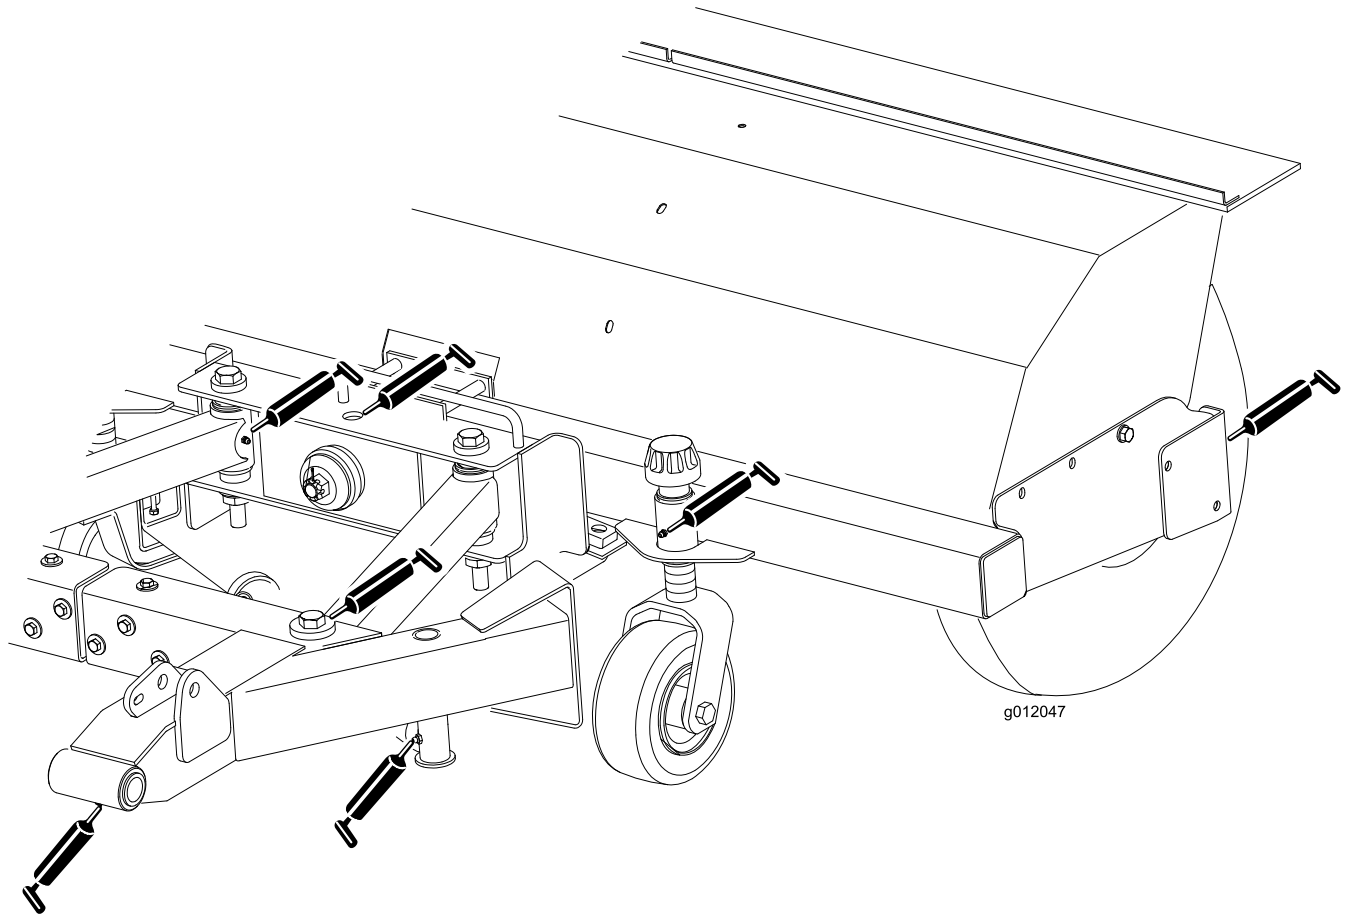

Figure 22
The rotary broom has (12) fittings that must be lubricated (Figure 22).
- Castor shaft bushings (2)
- Axle shaft bearings (2)
- Right and left lift arms (2)
- Right and left broom arms (4)
- Pivot pin (1)
- Cylinder pivot (1)